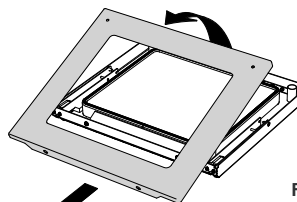

Figure 42
- Swivel open the oven door panel on the handle side and move it forwards to remove it (Figure 42).